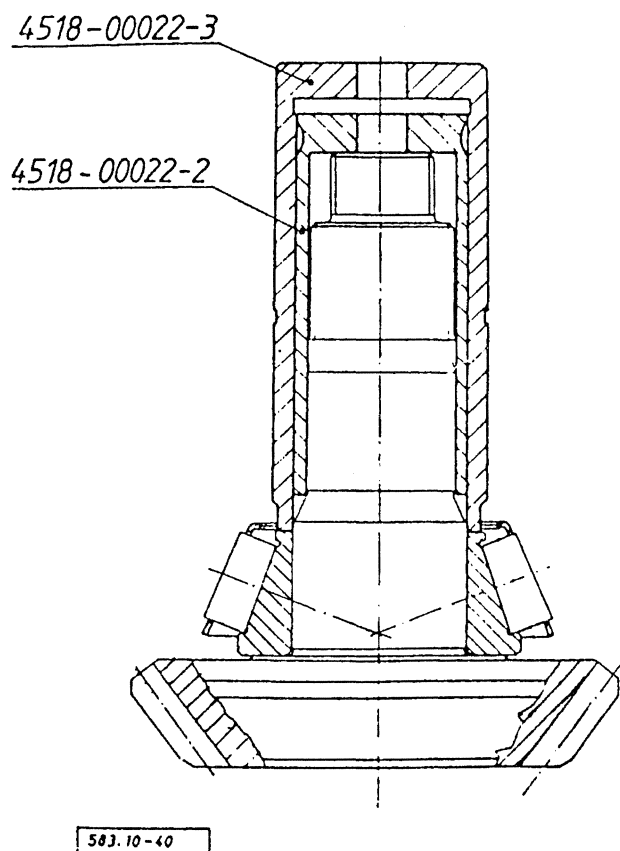

Fig. 7.: DRIVING ON THE INNER TAPER ROLLER BEARING CONE
By means of the tools shown drive the cone of the inner taper roller bearing (12) onto the drive pinion (Fig. 7.).